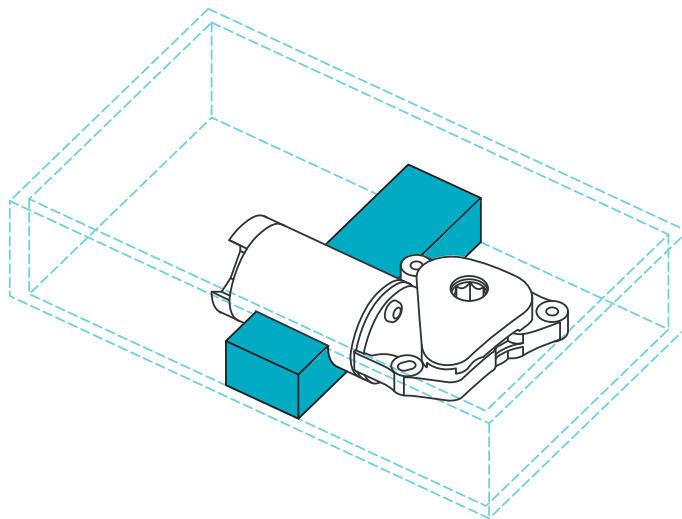

Fig. 8: Example position of the DMG90 in the Column (Free Floating, Actuator Support)
- b) The motor housing is evenly placed into the indent of the Actuator Support (Fig. 8)